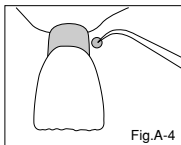

Fig.A-4
- b) After placement, when the material starts to lose the glossy appearance (or after curing with the light curing device), apply GC Cocoa Butter or GC Fuji VARNISH (blow dry) or GC Fuji COAT LC (light cure) to the sealed area and the margins using a cotton pellet or sponge (Fig.A-4).